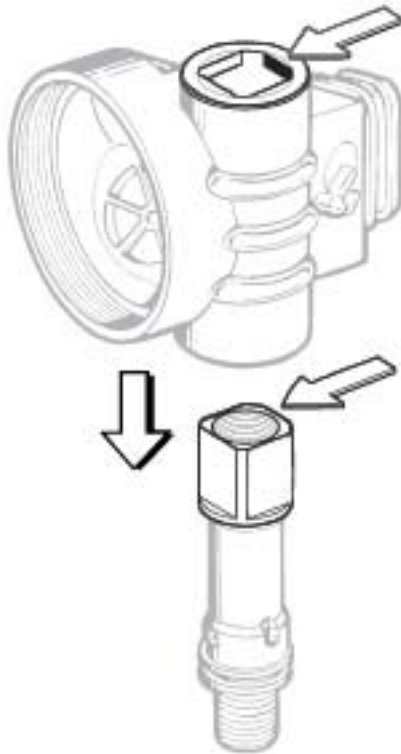

Figure 37 - Valve body & box bottom index
6. Without disturbing the alignment of the poppet inside, stand the valve body vertically with the squared end facing up. While holding it secure in this position, closely examine the four flat surfaces to identify one which is slightly narrower than the others. Compare this feature to the squared opening in the box bottom to determine how these parts are indexed to fit together (see Figure 37).